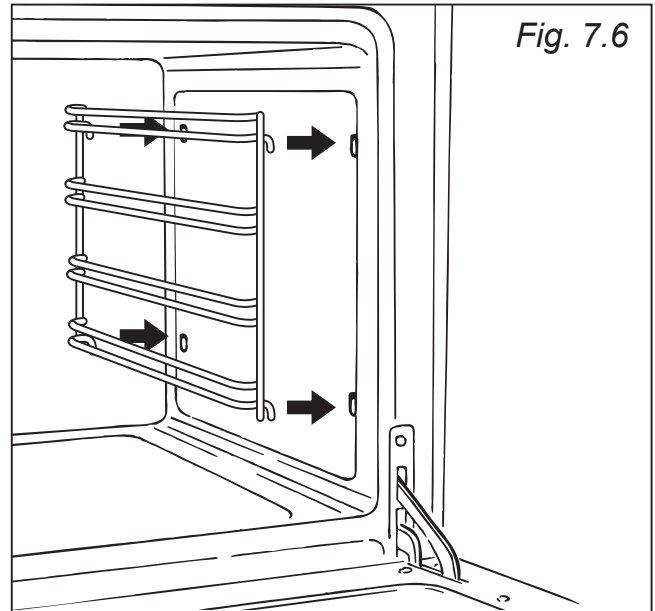

Fig. 7.6
- Fit the side runner frames into the holes on the side walls inside the oven (fig. 7.6).